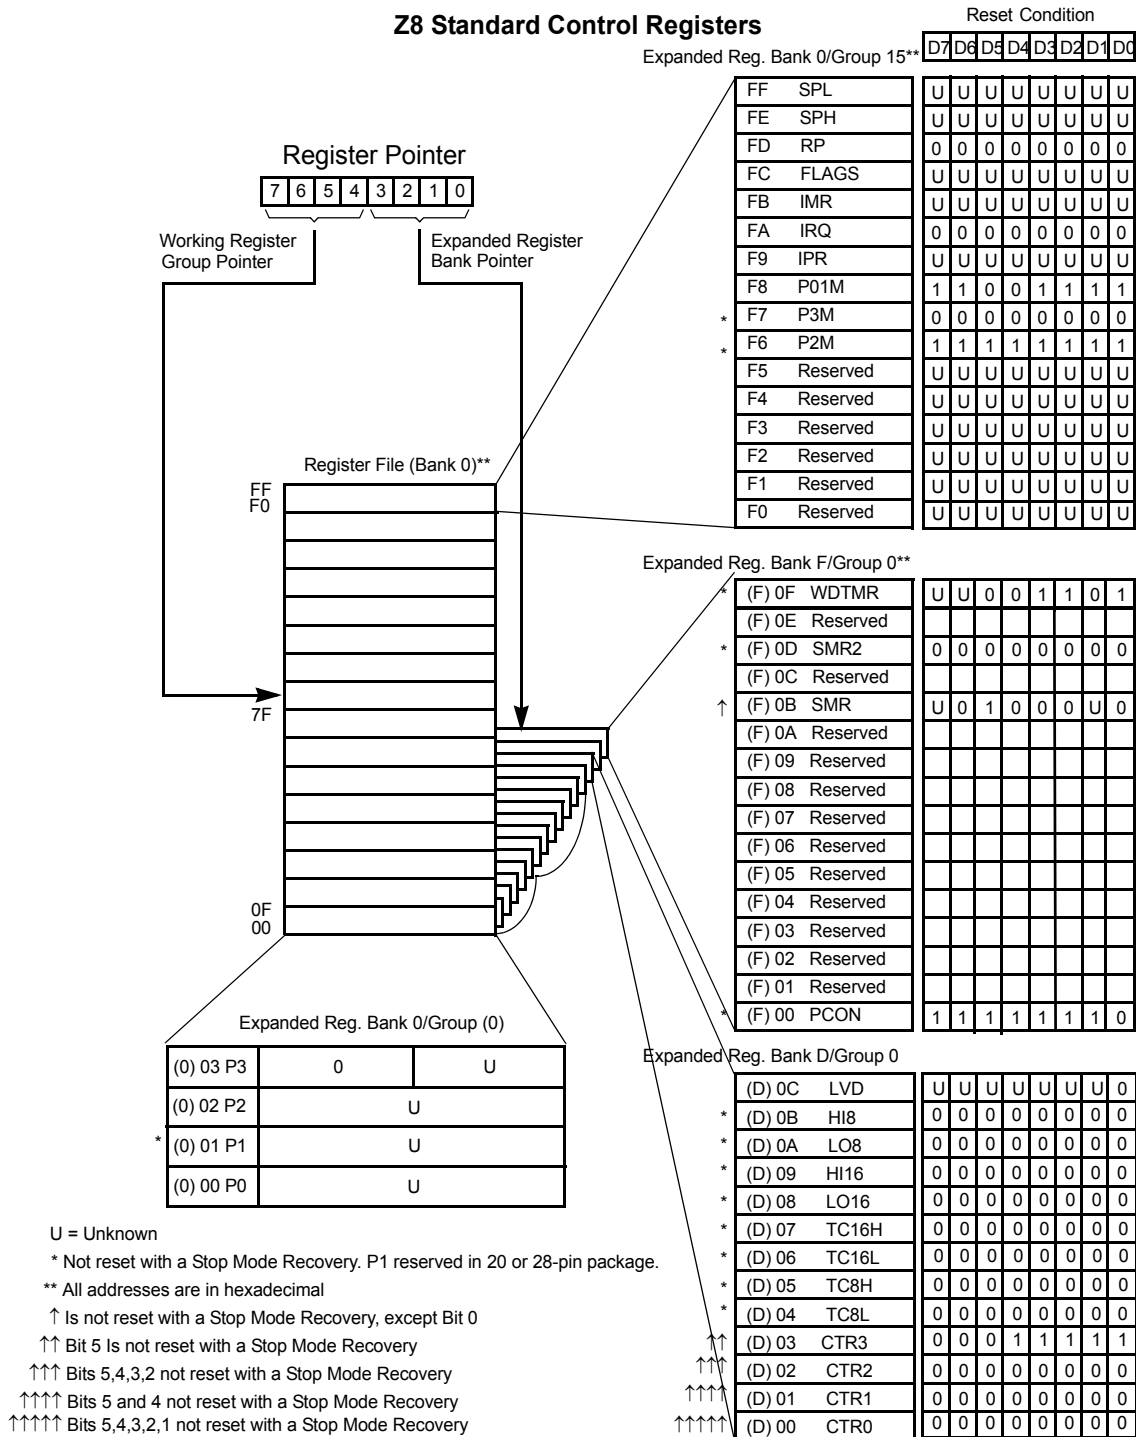

Figure 13. Expanded Register File Architecture
- ▶ **Note:** *An expanded register bank is also referred to as an expanded register group (see Figure 13).*
Example: Crimzon ZLP32300 (see Figure 13 on page 22)